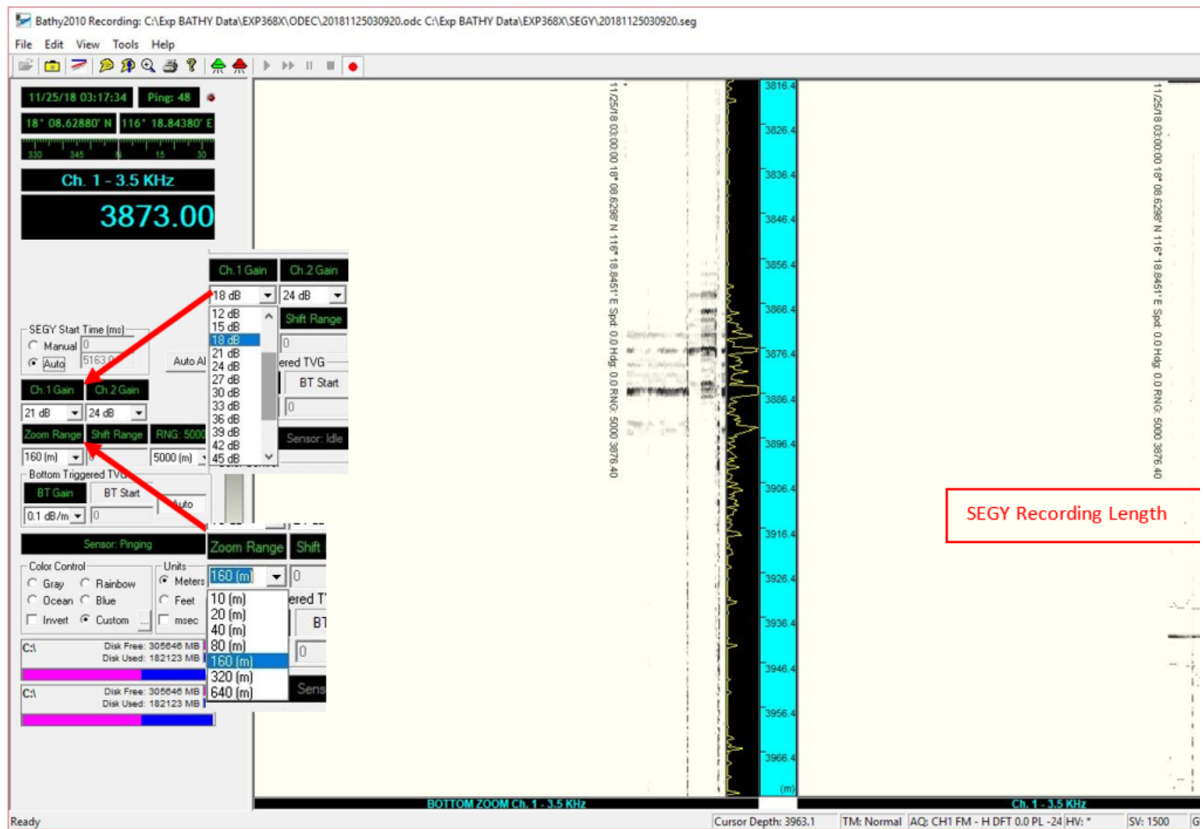

Figure 5 : Main window (pinging record)
Click the Green transducer icon to start pinging the sonar. The sensor status window will change to "Sensor:Pinging" and the letters will turn green. The transducers will start pinging and the depth record should start displaying. The screen below (Figure 5) shows only the 3.5 kHz sonar with the full depth scale on the right and the bottom zoom window on the left.
- The sonar will have to ping a few times before it will detect and display a bottom depth in meters. In the example above, Figure 5, the seafloor depth detected by the sonar is shown in the “Ch. 1 – 3.5 kHz” window (big blue numbers). The display windows show a nice seafloor on the right and shows some sub-bottom reflectors on the left in the zoom window. If you are not finding the seafloor there are a few things you can do.
- The left bottom zoom window on the main sonar screen in Figure 5 shows a zoomed in portion of the sonar record and is windowed around the established seafloor depth determined by the application and will adjust automatically. The user can adjust the zoom range in meters from the drop down menu shown above. If the application has not established a seafloor depth or loses the depth the bottom zoom window will reset to start at 0m.
- Note that the file path and file names will appear in the very top header of the application window (Figure 5).